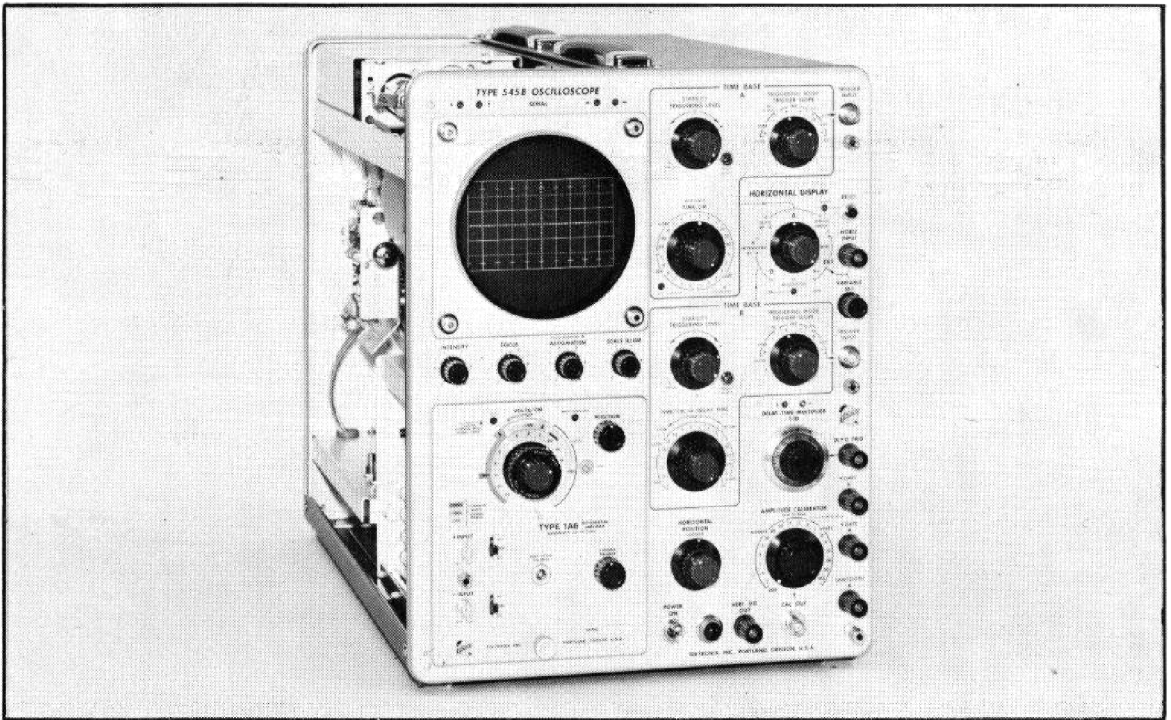

Fig. 6-3. Equipment setup for steps 1 through 4.
**1. Adjust R110 (V114 and V214 heater balance) ①**
- a. Equipment setup is shown in Fig. 6-3.
**2. Adjust Step Attenuator Balance (R155-R255) and VARIABLE BALANCE controls ①**